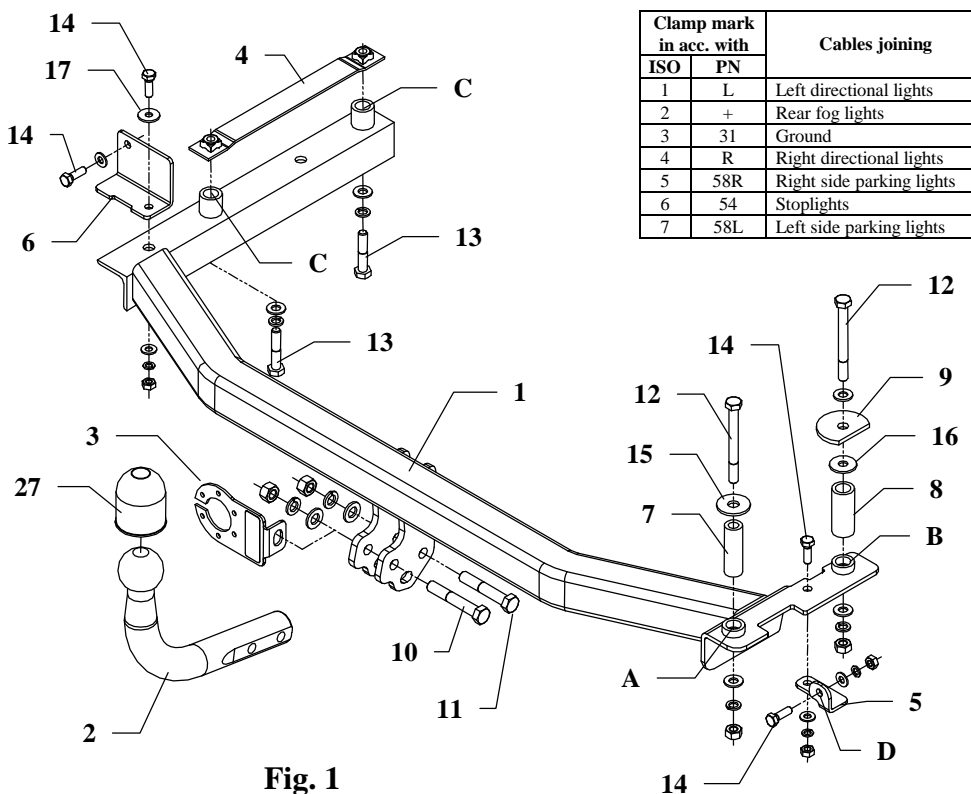

Fig. 1
5. According to figure 2 enlarge hole A (ca. $\varnothing 20\text{mm}$). Slip distance sleeve (pos. 7), put bolt M10x100mm (pos. 12) together with washer as shown in the figure 1.
6. On the left side put fish-plate with nuts (pos. 4) into chassis member.
7. Inside boot on the right side find factory made hole and slip into distance sleeve (pos. 8). Put bolt M10x100mm (pos. 12) and cut washer (pos. 9) as shown in the figure 1.
8. Fix right bracket (pos. 5) with main bar of the towbar (pos. 1) as shown in the figure 1. Apply main bar of the towbar to chassis and fix at points A, B, C and D as shown in the figure.
9. On the left side fix bracket (pos. 6) as shown in the drawing 1.
11. Fix tow-ball (pos. 2) with socket plate (pos. 3) using bolts M12x75mm (pos. 10) and M12x70mm (pos. 11) from accessories.